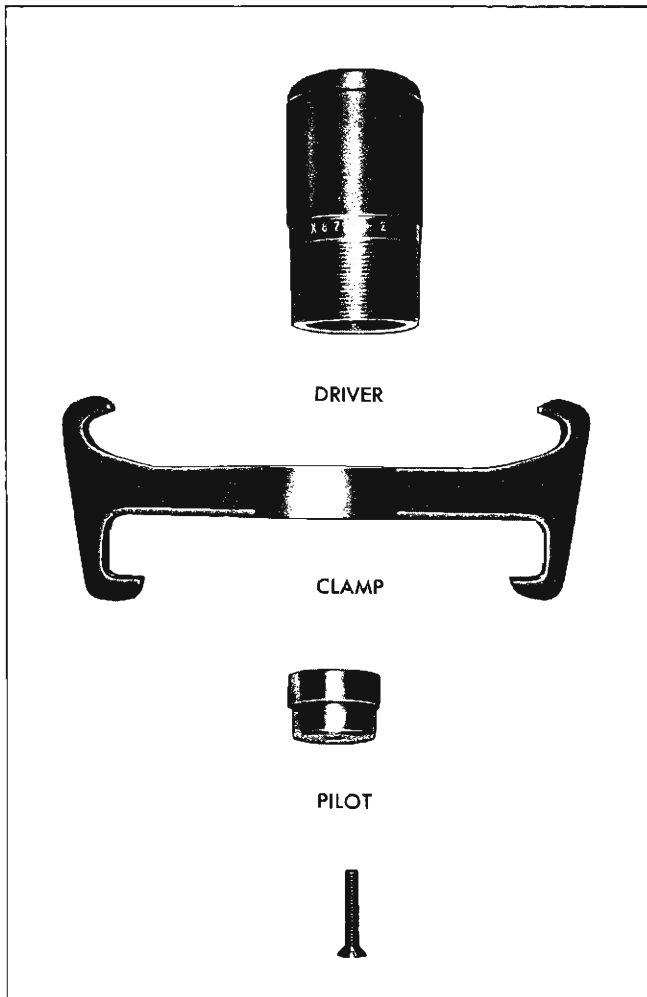

Fig. 12V—Installer Tool Assembly
2. Thread the driver section of tool into clamp section from shallow fingers to deep fingers (fig. 12V).